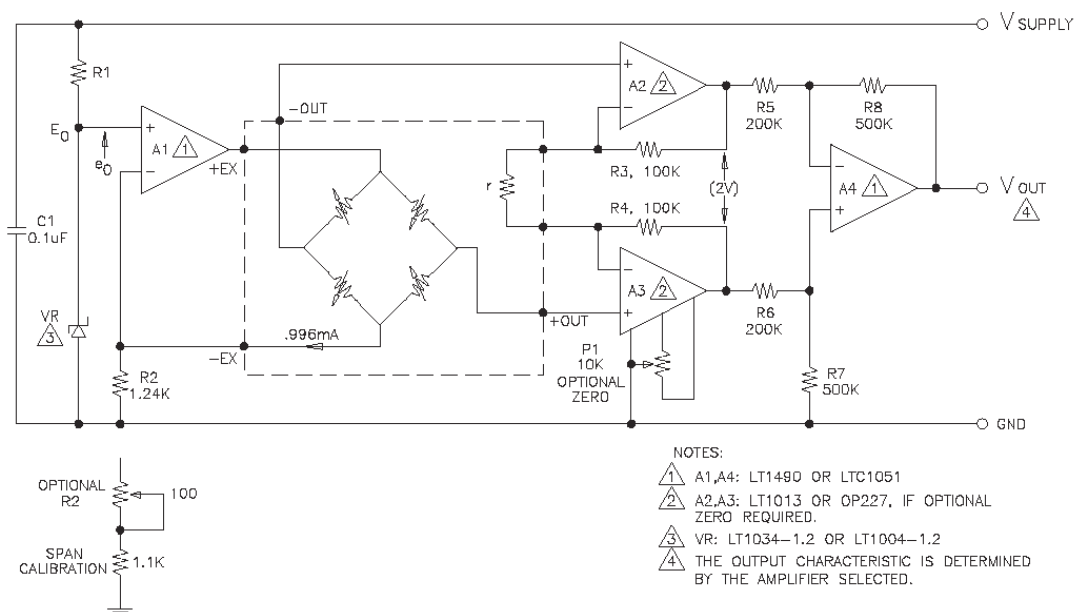

Figure 1 - Basic Signal Conditioning Circuit
The signal conditioning circuit shown in Figure 1 provides a precision constant current source for sensor excitation and an instrumentation amplifier with the gain programmed by sensor feedback resistor r .
If additional calibration and normalization is desired, resistor R_2 can be replaced with a series combination of a potentiometer and a resistor (Figure 1). The potentiometer can be adjusted to set the bridge excitation current (I) to achieve the exact span voltage (S) with full scale pressure applied to the sensor.
The output span S_O at the differential output of amplifiers A3- A2 (see Figure 1) for any other feedback resistor R in K is given by: